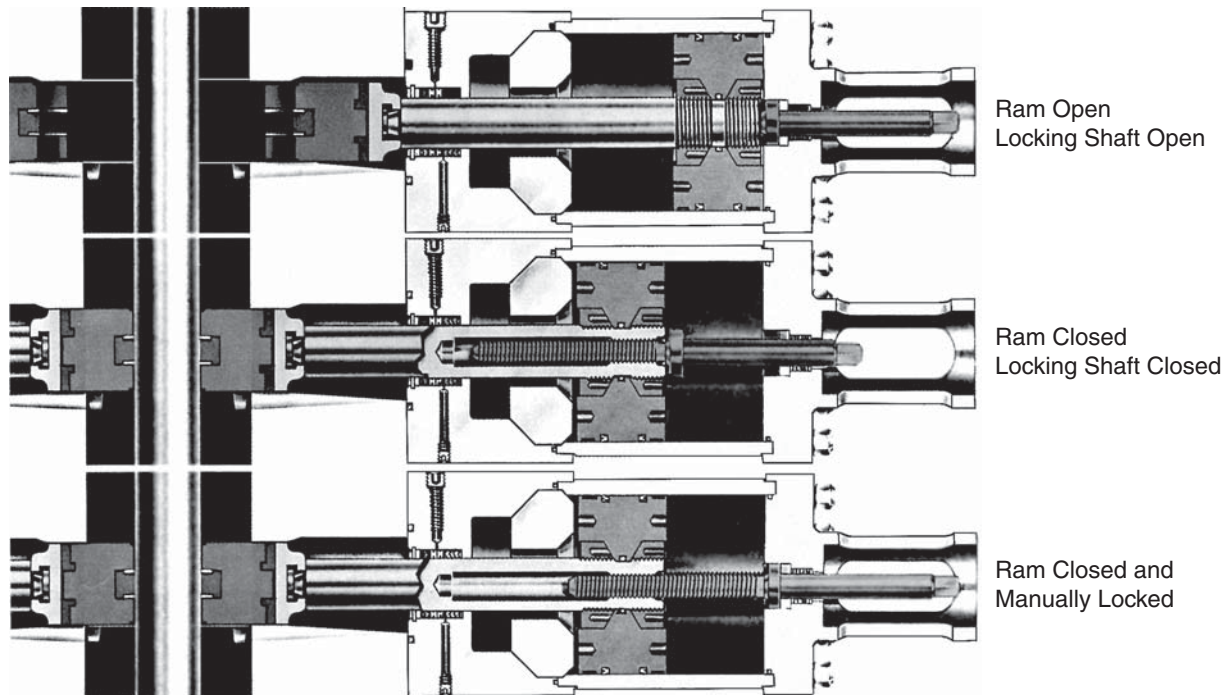

Figure 3-10. Rams: Open, Closed and Closed and Manually Locked
Apply 1,500 psi (103 bar) closing hydraulic pressure. See the section titled “Manual Locking” on page 3-13 for manual locking. Verify that the rams close by observing the inward movement of the handwheels or locking shaft (see Figure 3-10).
Apply 1,500 psi (103 bar) opening hydraulic pressure. Verify that the rams open by observing the outward movement of the handwheels or locking shafts (see Figure 3-10).
2. Turn each locking shaft clockwise until it locks; each locking shaft will move outward until it stops against the cylinder head (see Figure 3-10 on page 3-12).